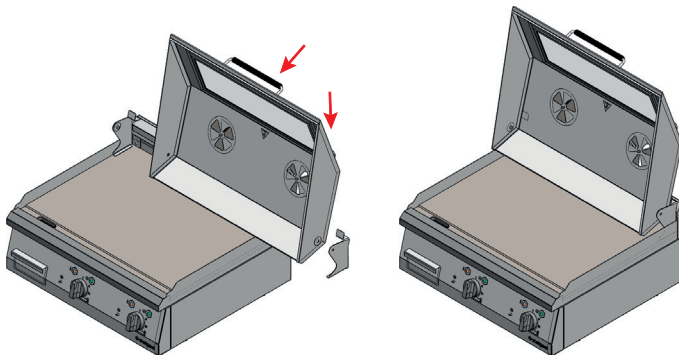

Figure 15. Lid installation.
- **Place the cover with the second hinge. Caution! This should be performed by at least two people.** Slide the cover so that the hole in the side of the cover hits the pin of the previously mounted hinge, then insert the whole unit between the side edges of the plate and rest the hinge on its bottom and the front of the flue. (Fig. 15.)